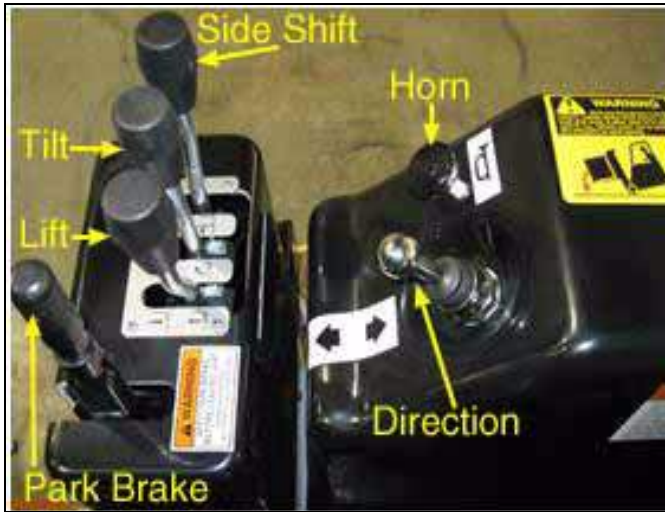

Figure 4-4 Operator Controls
2. Set the direction lever to neutral. See Figure 4-4.
The parking (hand) brake is located to the left of the control levers. See Figure 4-4. Pull the parking brake toward you to set it (pull hard). Push it away from you to release it. You cannot drive the Bendi B3/30 AC forklift while the parking (hand) brake is engaged. The truck will not respond to the accelerator pedal unless you push the parking (hand) brake forward all the way. A parking brake system is fitted to the drum brake system. The system is hand-lever actuated, and is electrically interlocked to create a NEUTRAL condition when the brake lever is actuated. As the lever is raised to apply the brake, the drive and power steering motors shut down and the directional control electrically resets to NEUTRAL, preventing further movement of the truck.
The direction lever is located near the front of the armrest. See Figure 4-4.
The first lever (closest to the operator) near the front of the armrest is the lift lever. See Figure 4-4.
The second lever on the front of the armrest is the tilt lever. See Figure 4-4. Pull it back for backward tilt and push it forward for forward tilt.
The third lever, away from the operator, near the front of the armrest, is the side shift lever. See Figure 4-4.
The horn is located on the armrest. See Figure 4-4. Depress the button to sound the horn.